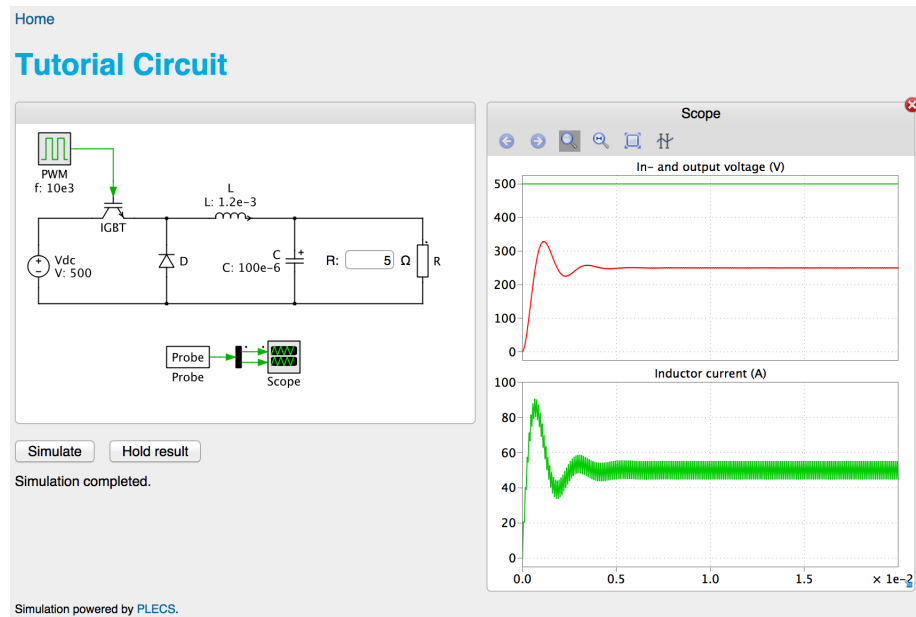

Figure 2.3: Web site with PLECS WBS schematic of a buck converter.
7. Now save the JSON file and open the website *localhost/custom* (or *localhost:8888/custom* using MAMP) in a web browser of your choice (preferably a current version of Safari, Firefox, Chrome or Opera). Click on the link "Tutorial circuit" and then on the simulation button. After opening the scope the result should look similar to the one given in Fig. 2.3. In case of an error, the WBS framework has an inbuilt syntax validator that shows in which part of the JSON file a syntax error occurred. You can also check the syntax of your JSON file online at <http://jsonlint.com>.